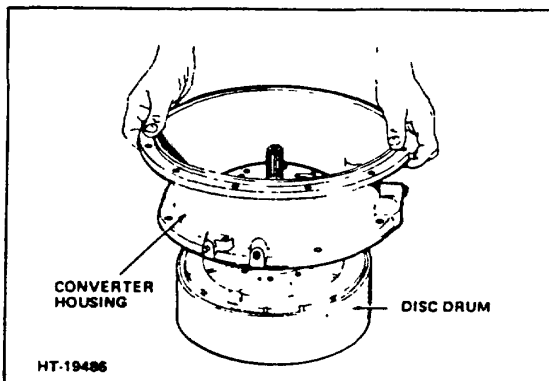

Figure 6. Removing Clutch Drum from Converter Housing
4. To remove the converter housing from the disc drum, remove snap ring on the turbine shaft and slide housing from drum assembly. Bearing will remain in housing. (Figure 6.)